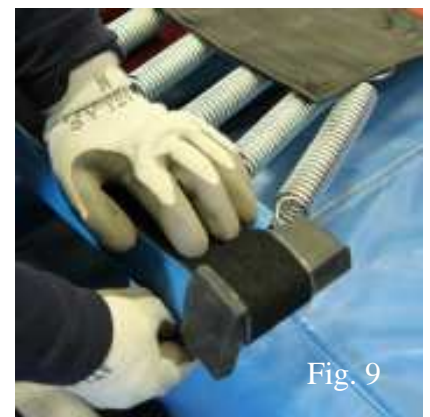

Fig. 9
- E. Use the extra 6" of Velcro to wrap around the endcap and fasten the Velcro to the underside of the rail (See Fig. 9).